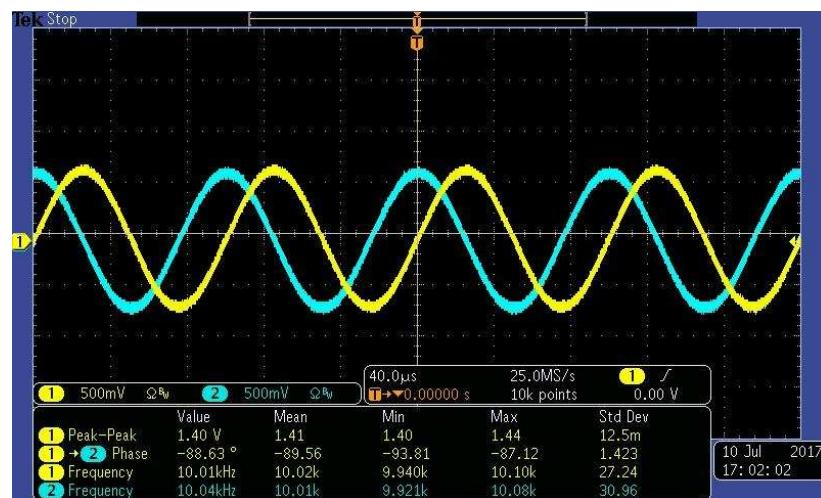

Figure 21. CW Output
9. The oscilloscope displays the frequency I and Q signals at 10 kHz as shown in Figure 21. The amplitude should be around 1.5 Vpp \pm 300 mVpp, though this amplitude may change. The frequency should be 10 kHz and the I and Q signals should be 90 degrees out of phase.